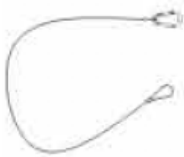

Fig. 13
1. Wire rope is necessary for the 100W/150W fixture (Fig. 13).